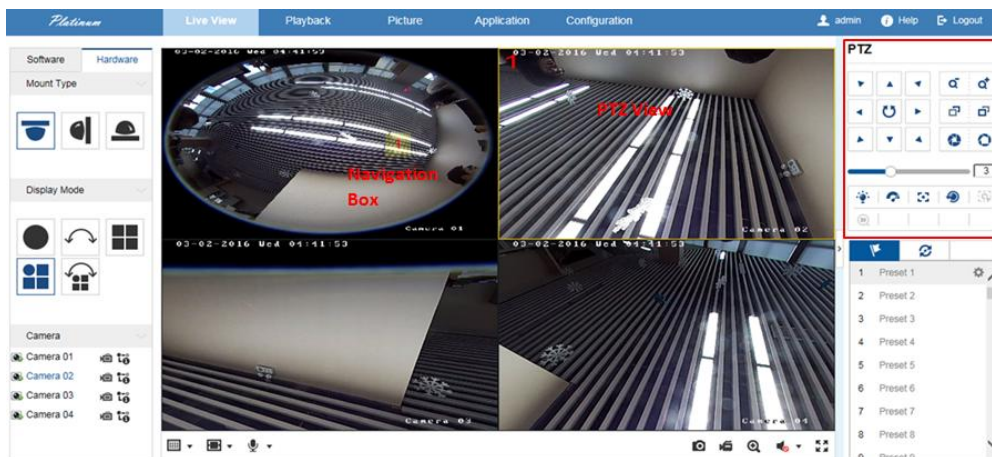

Figure 4-5 PTZ Control
**Note:** If Fisheye View or Panorama View is selected for live view together with the PTZ View, when you click on a random PTZ view, a navigation box indicating the location of the PTZ view will be shown on the fisheye or panorama view. See Figure 4-5.